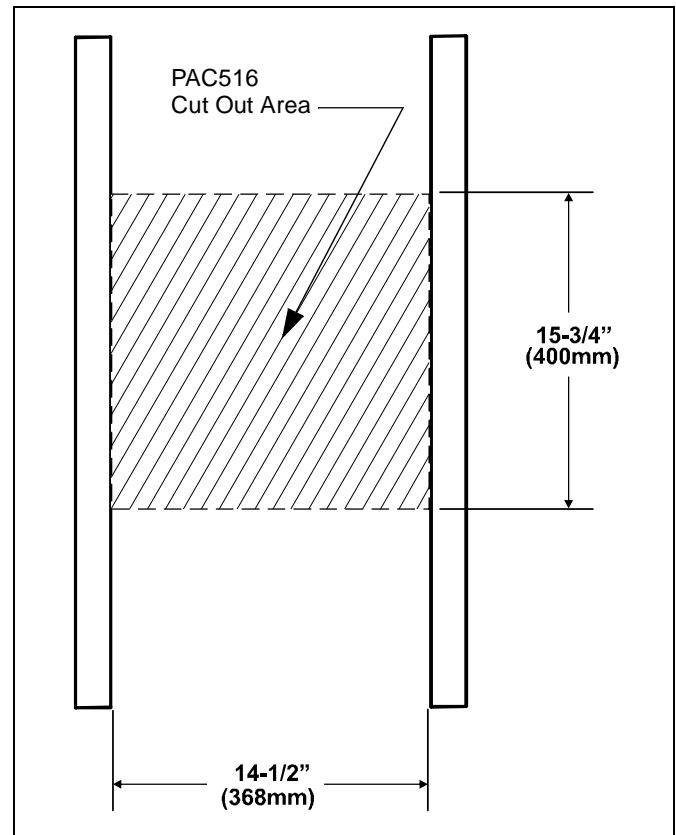

Figure 1
5. Using a measuring tool, measure the marked area and compare to the dimensions below. If measurements match, continue to Step 6. If not, adjust markings to match dimensions below. (See Figure 1)